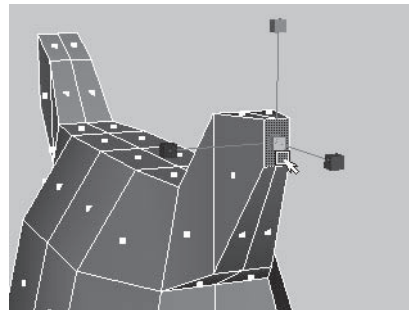

FIGURE 3.76 Front face of the right arm scaled.
15. Select the face on the end of the right arm and scale it a bit, as shown in Figure 3.76.